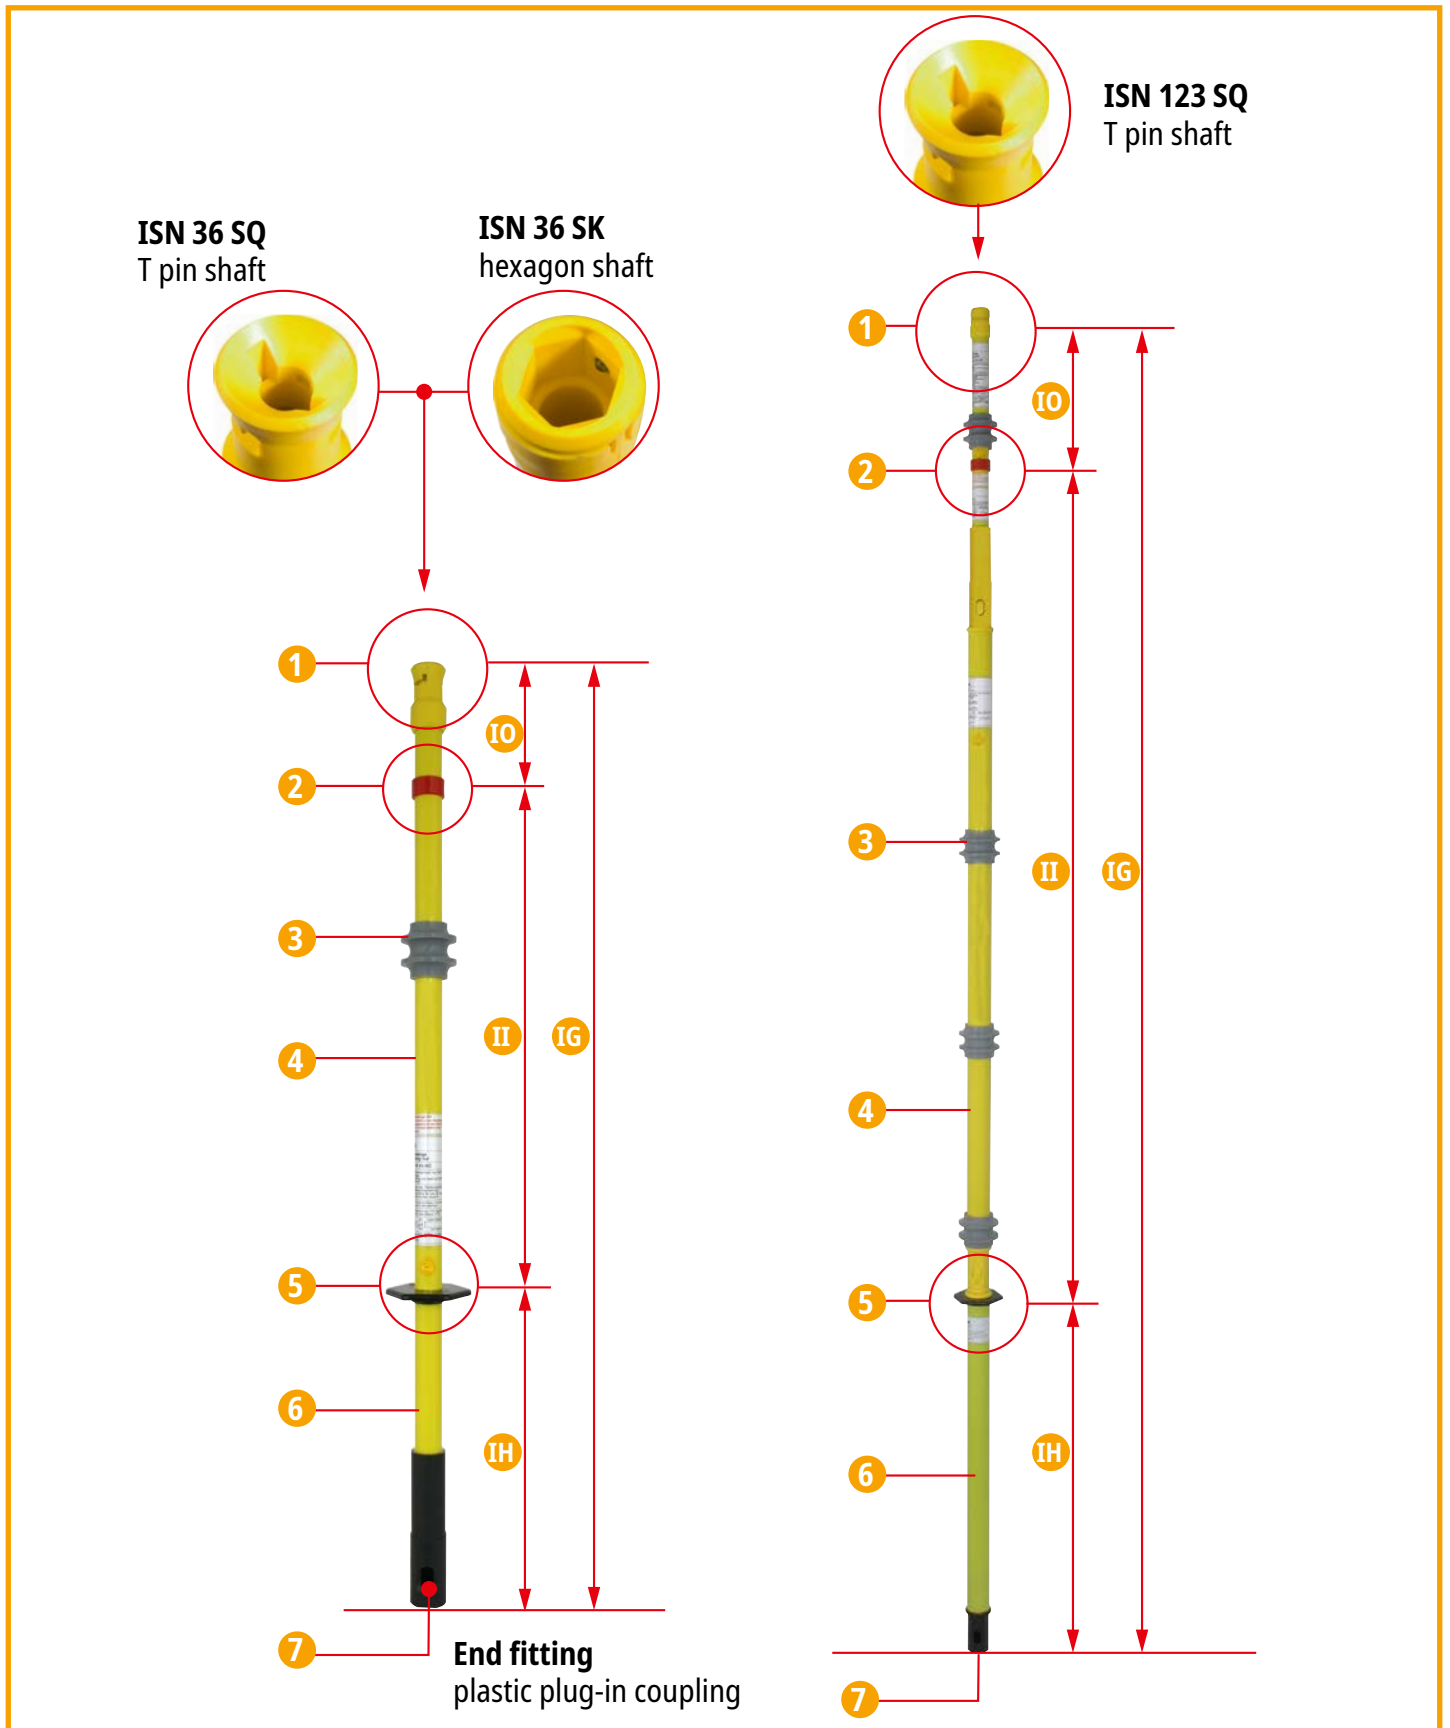

Figure 5
The ISN ... insulating stick consists of a coupling ①, red ring ②, rain cap ③, insulating element ④, hand guard ⑤, handle ⑥ and end fitting ⑦ (see Figure 5).
④ The hand guard ⑤ and red ring ② mark the insulating element rated for the nominal voltage (see Fig. 5).
① Coupling
② Red ring
③ Rain cap
④ Insulating element
⑤ Hand guard
⑥ Handle
⑦ End fitting